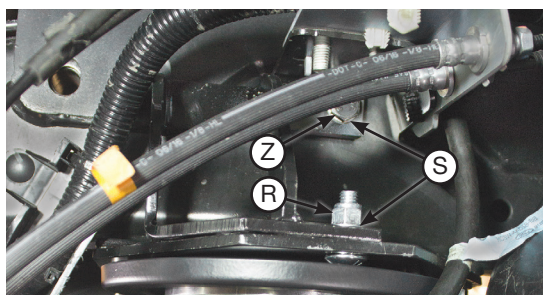

fig. D.25
On the driver's side, the long carriage bolt in the lower bracket will be between the hard brake line and axle (Fig. D.24). On the passenger's side, the carriage bolt will be on the back side of the brake line (Fig. D.25).
2. Place the upper frame brace on top of the air spring bracket, against the side of the frame. Use an M10 bolt (Z) and 3/8" flat washer (S) to attach the bracket to the frame via the same hole from which the factory bolt was removed. The lower hole on the upper bracket attaches to the carriage bolt from Fig. D.7 with a flat washer (S) and nylon lock nut (R). After the bracket is in place, proceed to torque the upper M10 bolt and the 3/8" lock nut to 16 lb.-ft. (22Nm) (Fig. D.25).